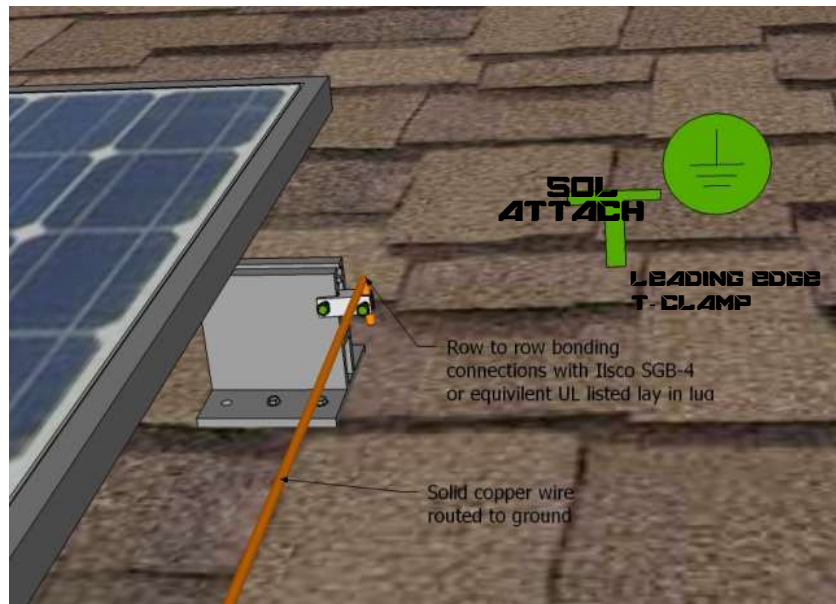

Fig 15
10. Row to row bonding is accomplished by running solid #10 copper wire from one row to the next by use of Ilisco SGB-4 lay in grounding lugs, or equivalent UL rated lugs, attached to one mounting foot connected to each end panel per row (Figs 15 & 16). Series over-current protection (fuse) rating for the mounting system is 15A.